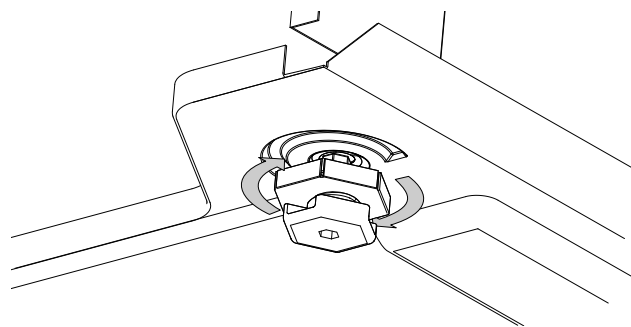

Figure 18
- After leveling, tighten the lock nuts on the rear to prevent the feet from turning when sliding into position. See Figure 18.